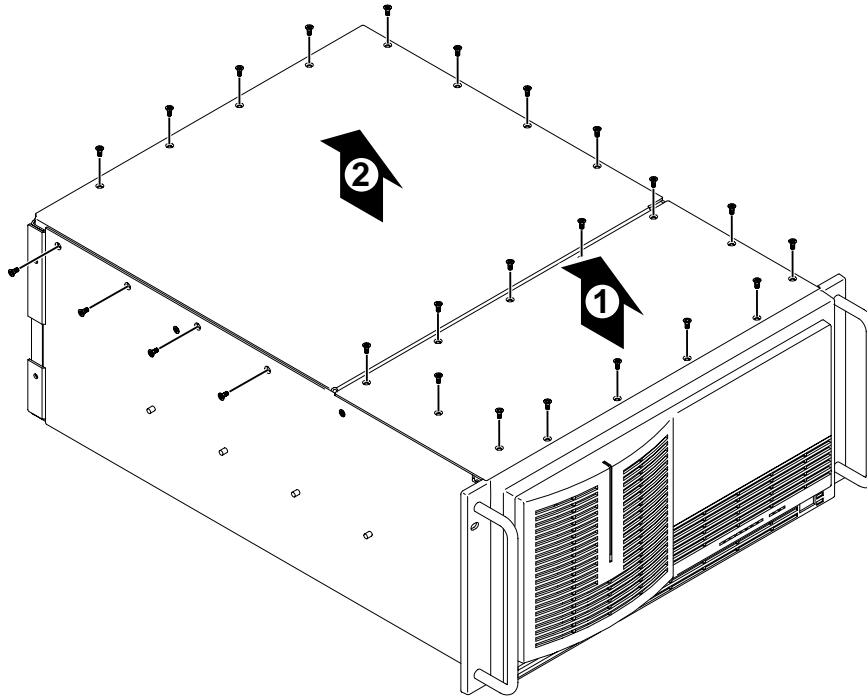

Figure 1-1 Removing the top covers
2. Remove the top covers in the order shown in Figure 1-1. The front cover must be removed first since it overlaps the rear cover. Use a T-10 TORX driver to remove the screws.